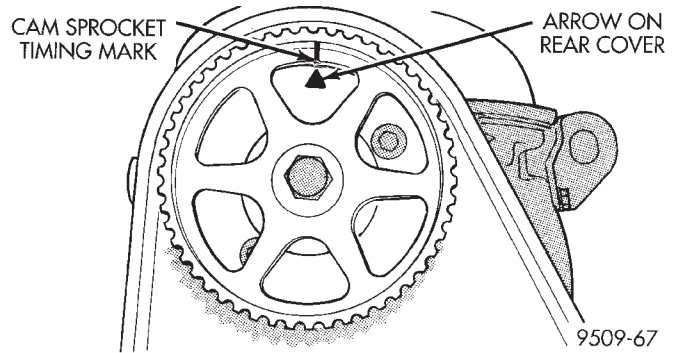

Fig. 73 Camshaft Timing Marks
- Check the timing mark on the camshaft sprocket, it should align with the arrow on the rear belt cover (Fig. 73).